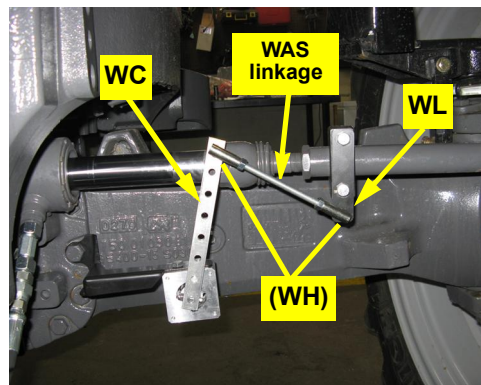

Figure 2d: Installed WAS linkage
d. Using the remaining hardware **WH**, install the assembled WAS linkage from step 1d between the rod bracket **WL** and the last hole in the WAS connector arm **WC**. Install the linkage with the swivel studs inward but leave the swivel stud nuts **WH** loose (Figure 2d).